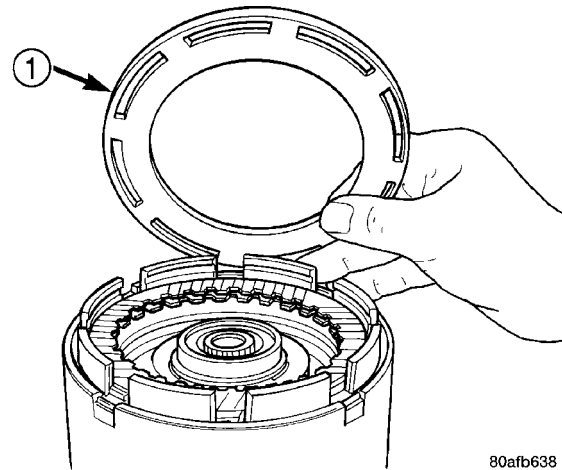

Fig. 243 Install Reaction Plate
(29) Install reverse clutch reaction plate with the flat side down towards reverse clutch (Fig. 243).